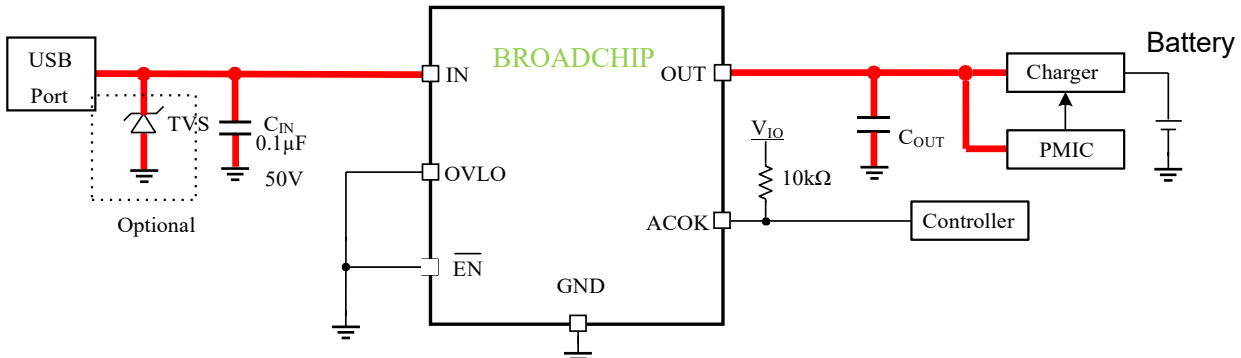

Figure 4 BCT7915H typical application circuit(using default OVP threshold)
3. Red bold paths on figure 4 and 5 are power lines that will flow large current, please route them on PCB as straight, wide and short as possible.